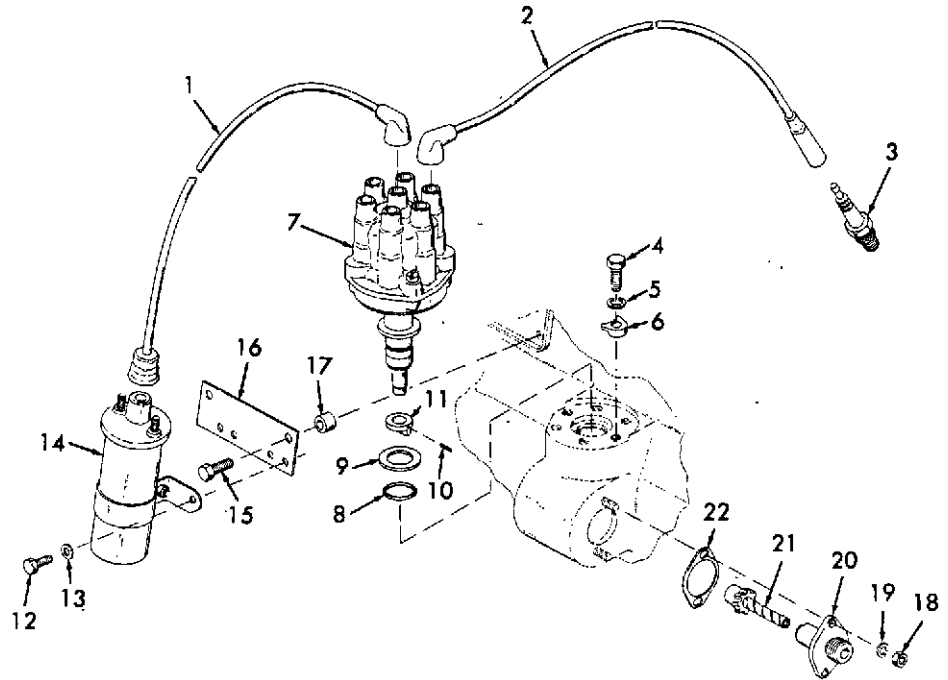
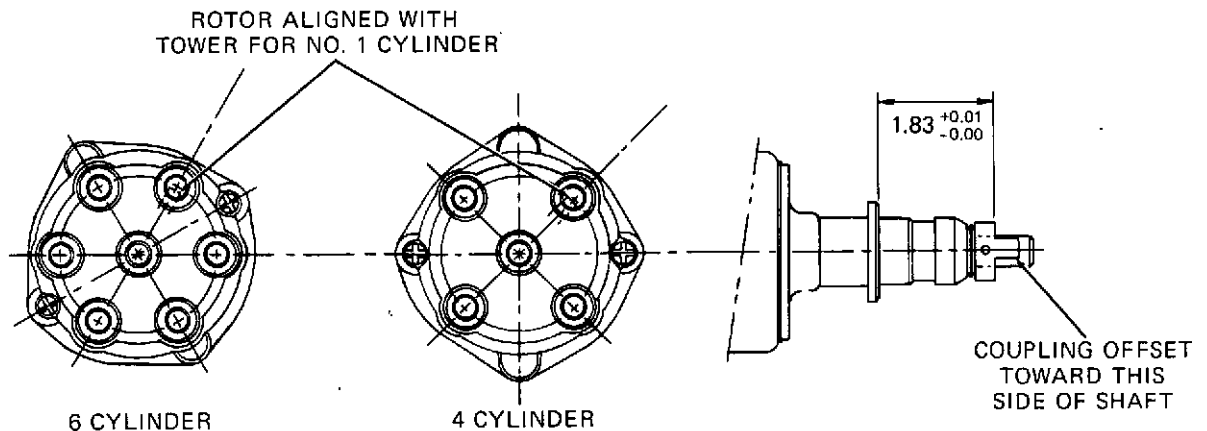

Figure 5-15. Distributor Ignition System, Exploded View
Figure 5-16. Distributor Coupling Installation
1. Disconnect the primary wire and ignition cable (1, figure 5-15) from the distributor to the ignition coil. Tag and disconnect the spark plug cables (2).
4. Remove the cap screws (4, figure 5-15) and lock washers (5) which secure the clamps (6) to the cylinder block. Remove the clamps and pull the distributor (7) from the cylinder block.
5. Remove the O-ring (8) and spacer (9) from the distributor body.
6. If the coupling (11) is worn or damaged, drive out the pin (10) and remove the coupling.
7. If the ignition coil (14) is defective, disconnect the wires and remove the screws (12) and washers (13) which secure the ignition coil to the bracket (16). Remove the coil from the bracket.
1. If the ignition coil was removed, reinstall the ignition coil (14, figure 5-15) and bracket (16) on the cylinder block.
2. To reinstall the coupling (11), rotate the distributor shaft until the rotor points to the No. 1 cylinder firing position (figure 3-3). Install the coupling on the shaft with the coupling offset positioned as shown in figure 5-16, and press it onto the shaft to the length shown. If a new coupling is being installed on an old distributor drill a hole for the pin (10, figure 5-15), using the partially factory pre-drilled hole for a guide. Use a No. 30 (0.1285 inch diameter) drill. If the old coupling is being installed on a new distributor shaft, position the coupling on the shaft as shown in figure 5-16 and use a No. 30 drill to drill through the shaft, using the old hole in the coupling as a guide. Install the pin (10, figure 5-15).
3. Install the spacer (9) on the distributor body. Coat the O-ring (8) with light grease and install it on the distributor.
6. Rotate the rotor slightly until the coupling tang engages the notch in the oil pump drive shaft, and push the distributor firmly into the block bore. Install the two clamps (6, figure 5-15), cap screws (4), and lock washers (5), but do not tighten the screws fully.
10. Rotate the distributor body counter-clockwise until the breaker arm rubbing block is just starting up the cam lobe. Continue to rotate very slightly until there is a 0.002 inch gap between the breaker points. Tighten the cap screws (4) on the clamps (6) to secure this preliminary adjustment.
a. To remove the tachometer drive, disconnect the tachometer cable from the adapter (20, figure 5-15). Unscrew and remove the nuts (18) and lock washers (19) which secure the adapter (20) to the cylinder block. Remove the adapter and gasket (22) and pull out the assembled shaft and gear (21).